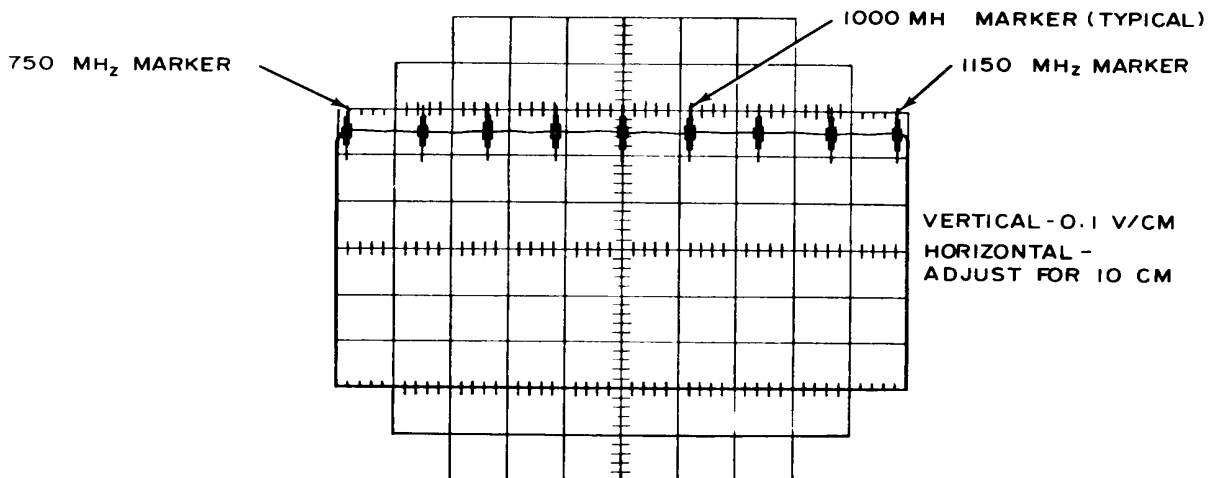

Figure 5. Oscilloscope display (typical).
(17) Alternately adjust R145 and R144 clockwise until the 750 and 1150-MHz markers are positioned at the extreme ends of the horizontal trace as shown in figure 5.